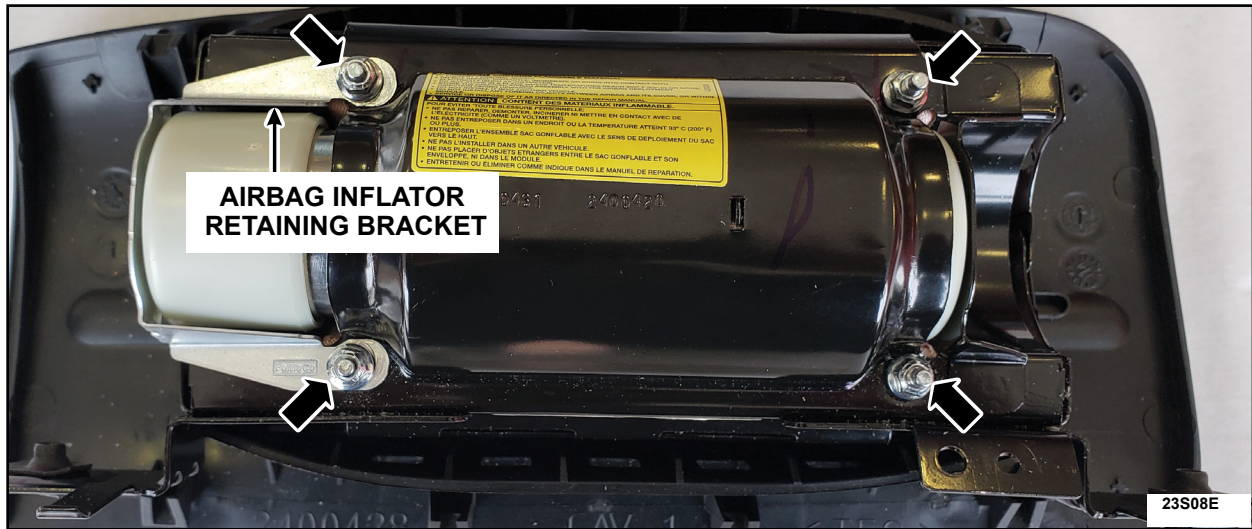

FIGURE 4
5. Remove the four airbag inflator retaining nuts and the bracket. See Figure 4.